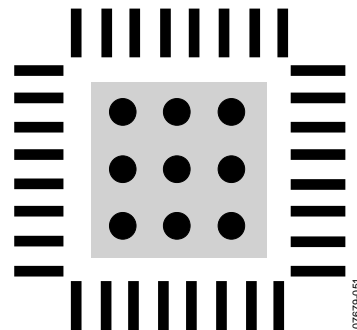

Figure 65. Exposed Pad Layout Example, Top View
- Vias should be placed to connect all layers of copper, allowing for efficient heat and energy conductivity. For an example, see Figure 65, which has nine vias arranged in a 3 inch  $\times$  3 inch grid in the pad area.